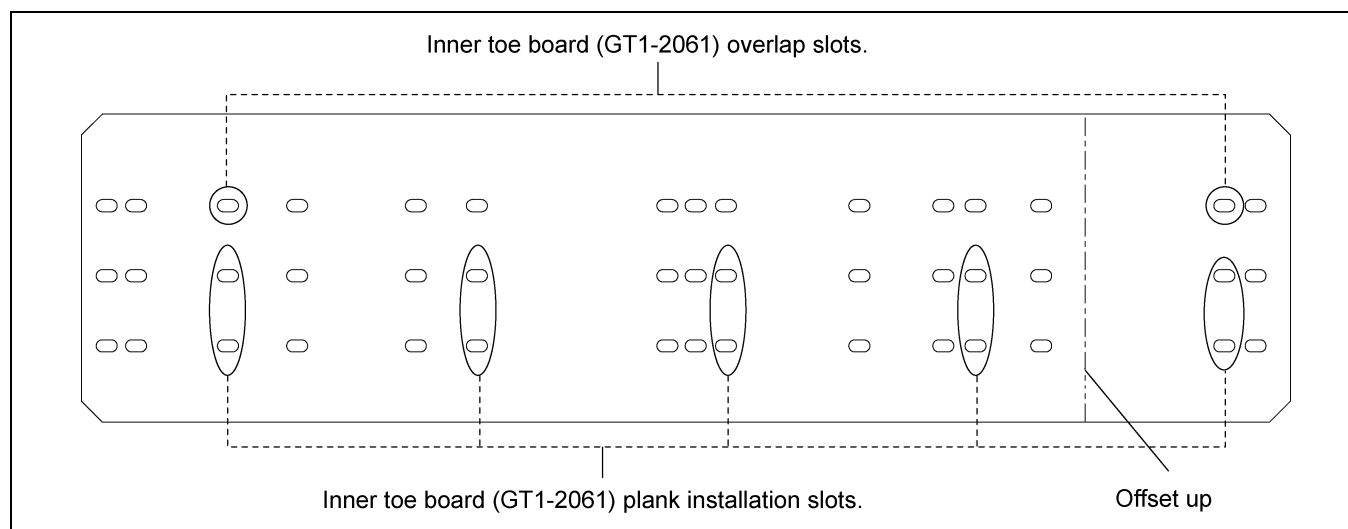

Figure 5K 24' Inner Toe Board (GT1-2061)
3. Inner toe board is arranged with overlap slots on each side and plank installation slots. Install 24' inner toe boards (GT1-2061) to corresponding overlap and plank installation slots as shown in *Figure 5K*